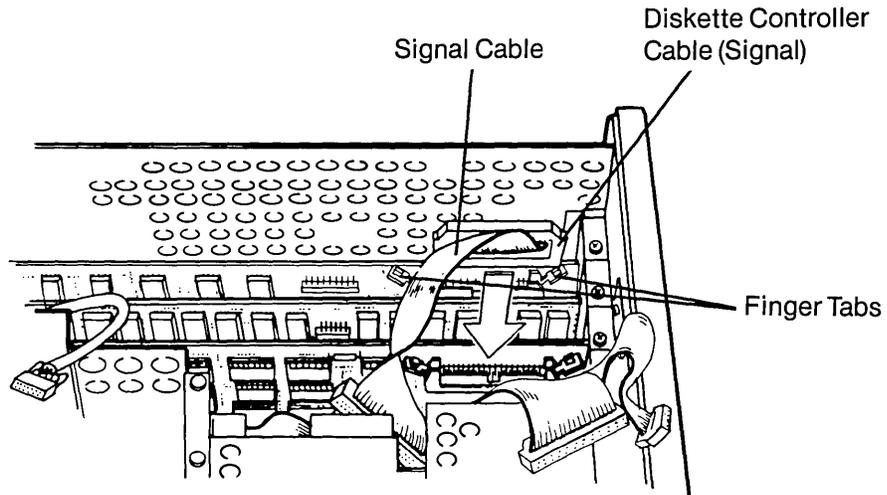

Figure 11-29. Connecting the Diskette Drive Connector Cable.
14. Connect the diskette drive connector cable to the diskette/printer adapter board by pressing on the cable (see Figure 11-29).